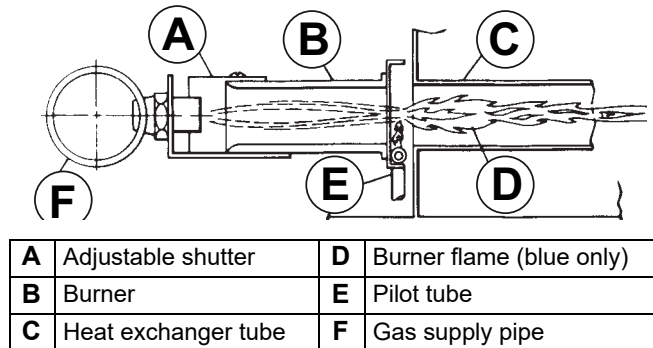

Figure 3 - Typical flame appearance
- Check the appearance of the main burner flame. Adjust the burner shutters so that no yellow flame is observed in the heat exchanger tubes. See Figure 3.